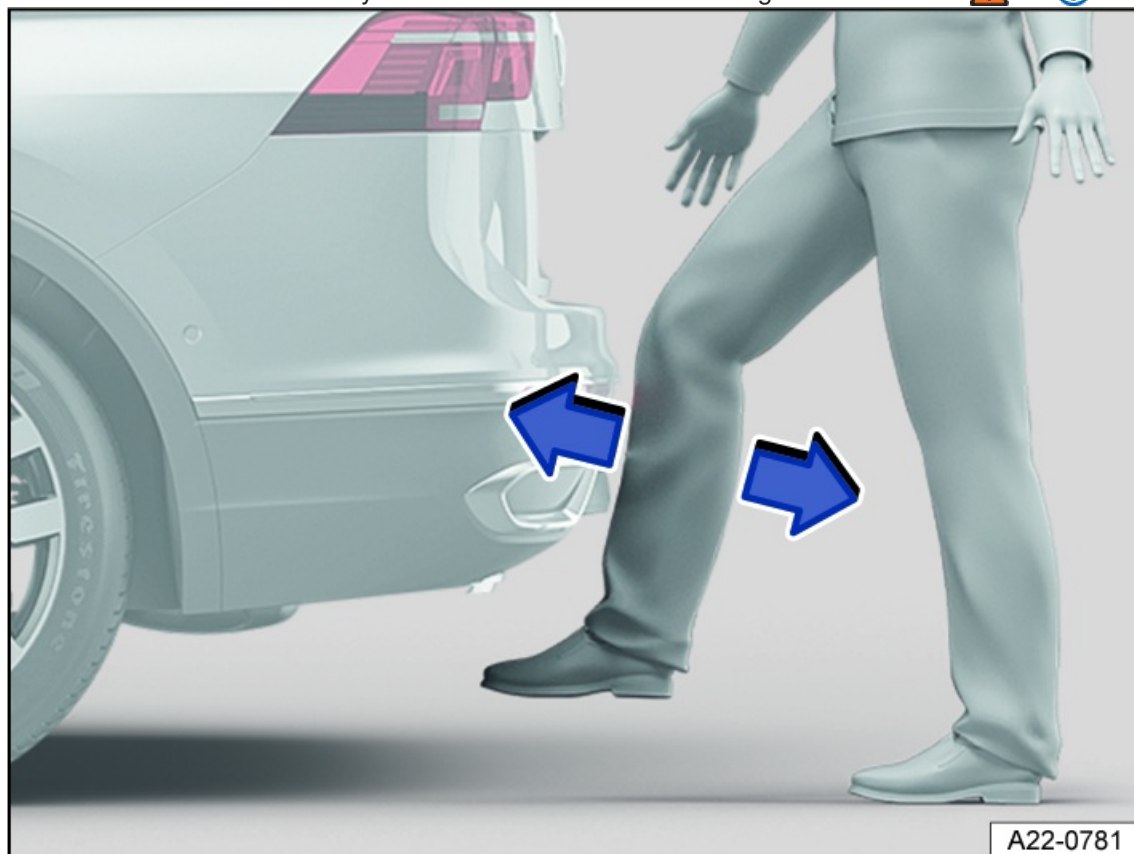

Fig. 51 General example of the trunk lid with sensor-controlled closing (Easy Close).
2. Quickly swing the lower part of your leg close to the bumper *fig. 51*.